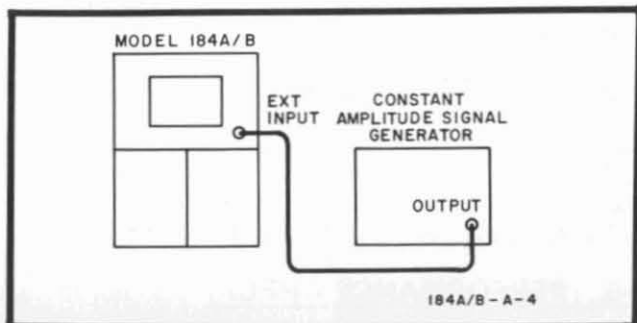

Figure 5-3. Horizontal Bandwidth Check
a. Connect 50-kHz signal from constant amplitude signal generator to EXT INPUT (figure 5-3).